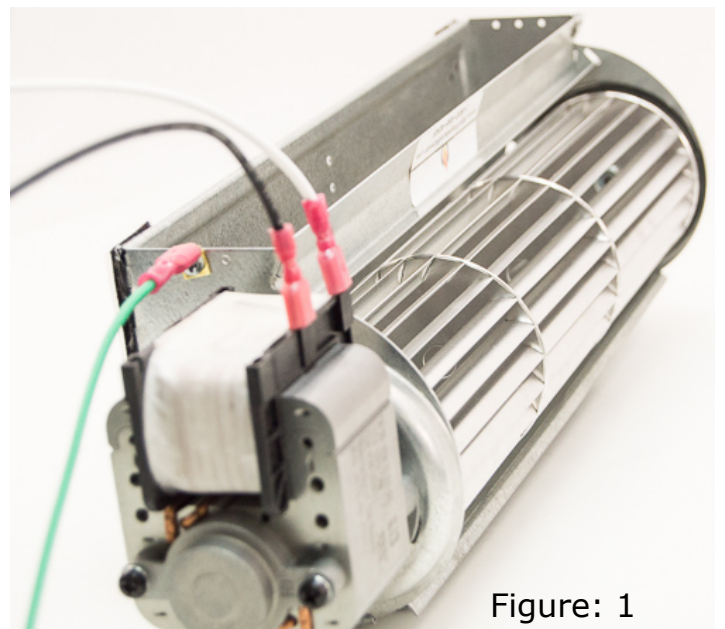

Figure: 1
Step 2: Push the Green Ground Wire disconnect onto the ground tab on the end of fan. (Figure: 1)
Connect White and Black wires to either of the spade terminals attached to the motor. Push disconnects onto metal tabs. (Figure: 1)